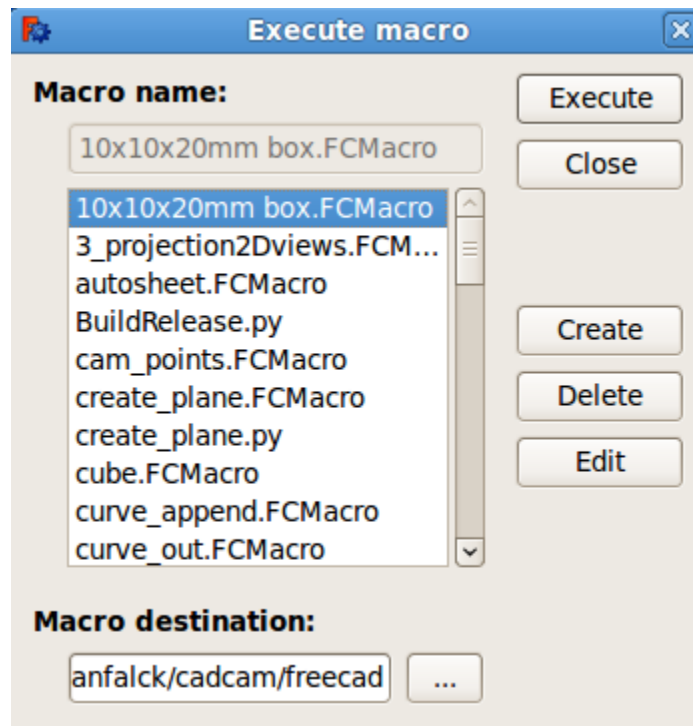

Figure 69 – Macro execution window
6. Select the name of the macro you created and click on **Execute** (Figure 69):